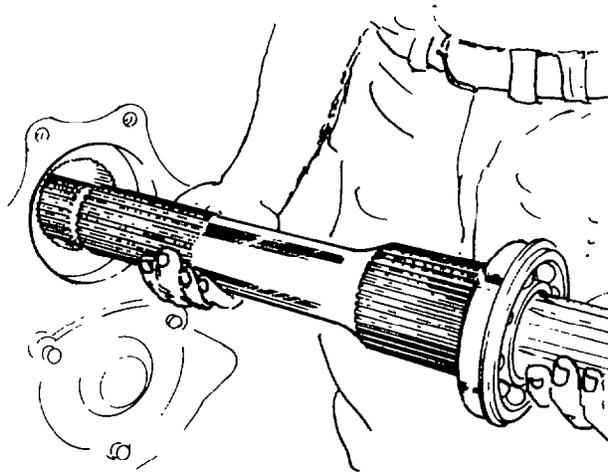

Fig. 207 — Installing Mainshaft
- t. Start the mainshaft in the case through the rear bearing opening (see fig. 207). Advance the mainshaft through the reverse gear, second/third gear sliding clutch and fourth gear until the rear bearing positioning snap ring seats against the case.